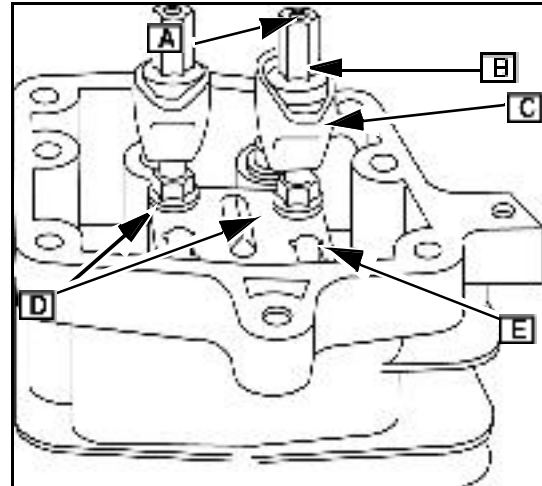

Fig. 5
4. Remove rocker arm studs (D) and push rod guides ([E] Fig. 5), if equipped.
1. Loosen rocker arm set screws ([A] Fig.5).
2. Remove rocker arm nuts (B), and rocker arms (C).